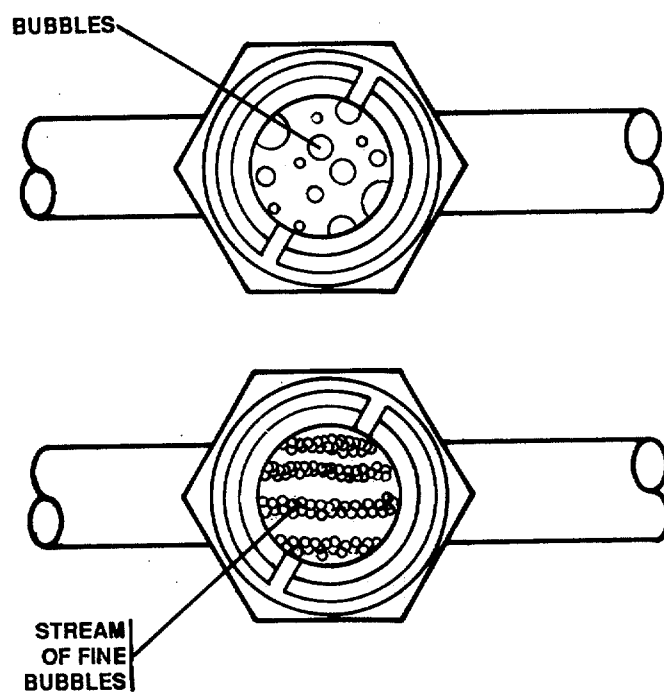

FIGURE 4-25. Low Refrigerant Charge.
- (22) Observe the refrigerant sight glass in the liquid line. If bubbles, or an intermittent stream of bubbles (FIGURE 4-25) are present, add additional refrigerant until sight glass shows clear. Do not add refrigerant after sight glass clears.
- (23) Close valve (6) on refrigerant container (7).
- (24) Turn suction valve stem and discharge valve stem fully counterclockwise and install valve caps (9) and (5).
- (25) Purge lines before disconnecting.
- (26) Disconnect gauge manifold hoses from connections (10), (4), and (8).